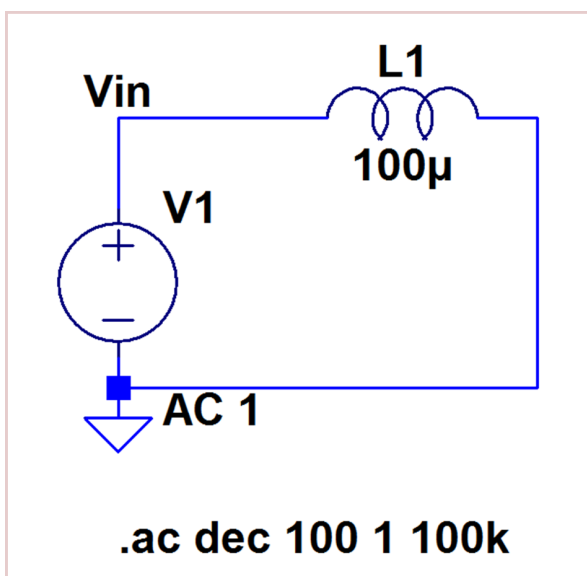

Figure 6. Schematic for Prelab #1, step 1.
1. Simulate the schematic shown below in Fig. 6. Plot the current through the inductor. Next, in the expression editor, divide the input voltage by the current through the inductor. This will give the impedance of the inductor as a function of frequency. The Y axis defaults to dB, right click on the Y axis, select manual limits and change to "linear". This will show the units in Ohms. **(Schematic, Plot)**